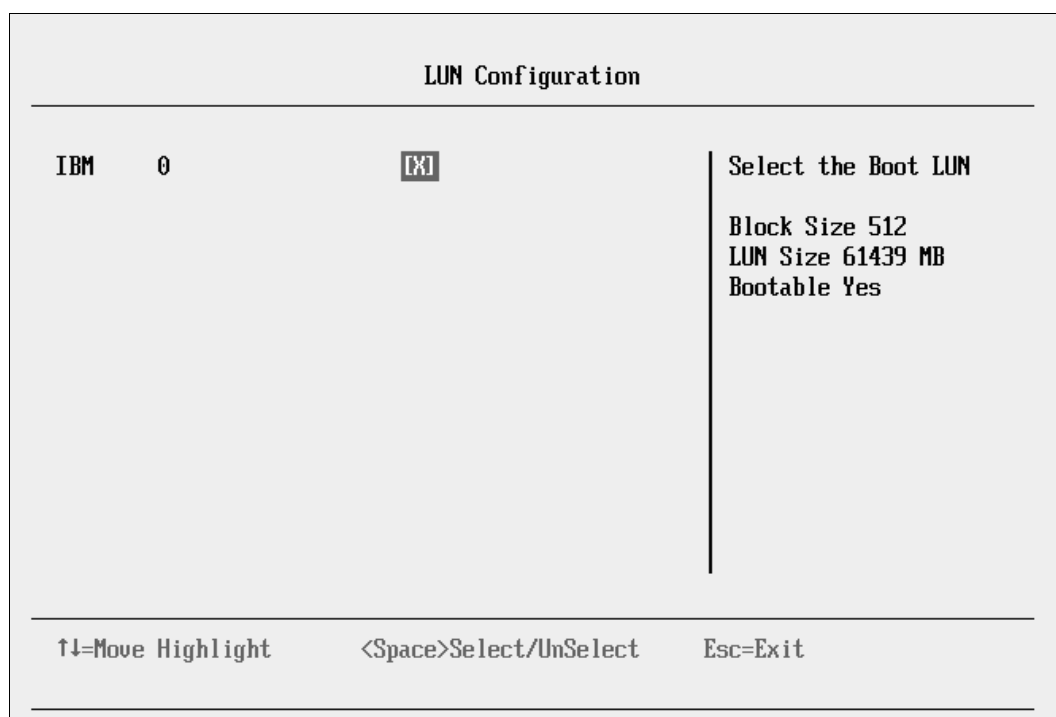

Figure 9-88 LUN Configuration panel with LUN 0
15. Check the LUN information. From your target IQN, select **LUN Configuration**, and make sure that you see LUN 0 (Figure 9-88).